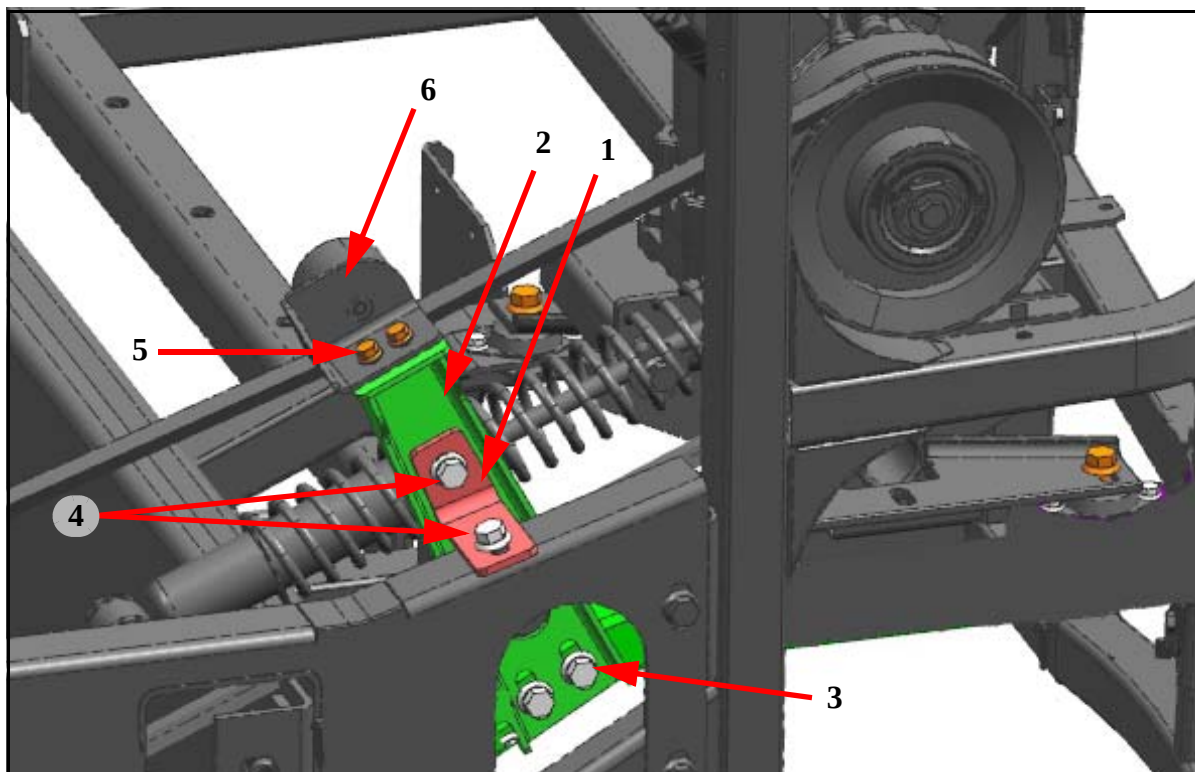

Figure 4. Idler pulley bracket angle and snubber bracket installation.
7. Orient and install the new snubber bracket, p/n 08-27-1327, idler pulley bracket angle, p/n 08-27-1326, and existing idler pulley as shown in Figure 4.
Item	Figure 4 Description